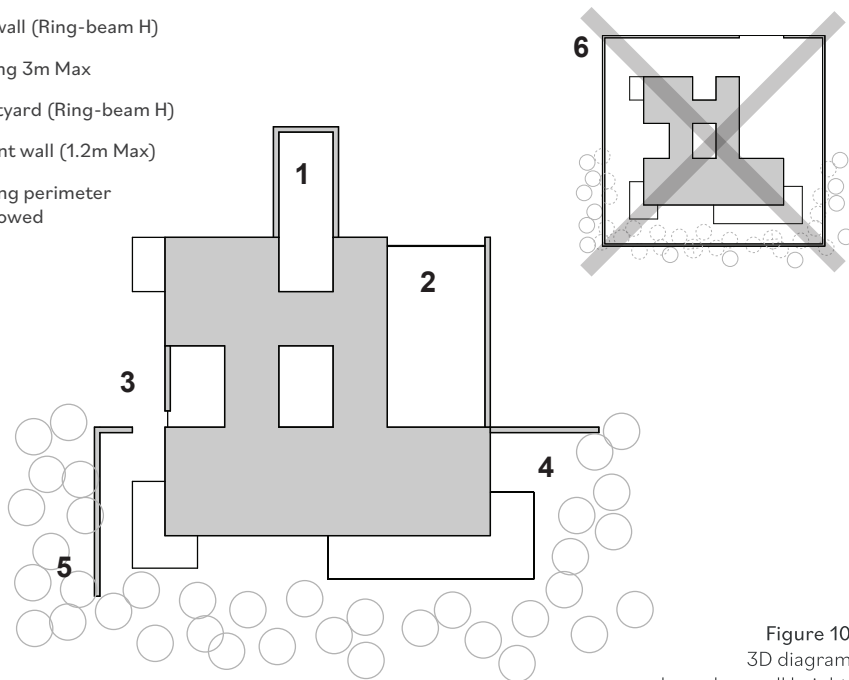

Figure 10:
Boundary walls are allowed if appearing to be part of the primary building. Some Fencing is allowed if it blends into natural vegetation. Walls that are attached to the building may continue at Ring Beam (RB) height. If walls stand independent to the building they may not be located further than 3m from the primary building or be taller than 1.2m. Independent walls must terminate in natural vegetation and blend into the landscape. Natural Fynbos Hedges may be planted between stands with vegetation listed but not within natural corridors (refer to figure 10 & 13).